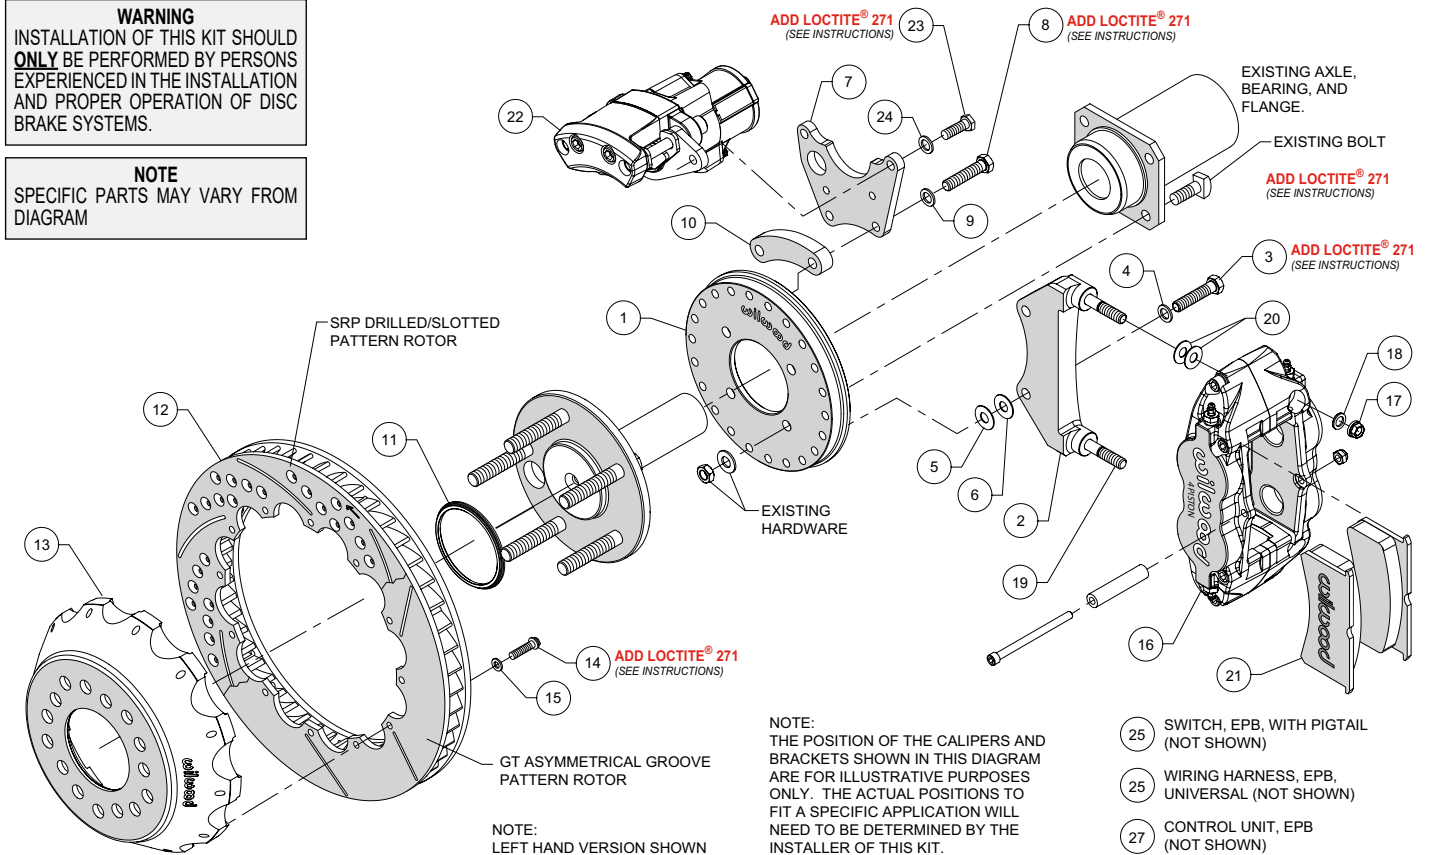
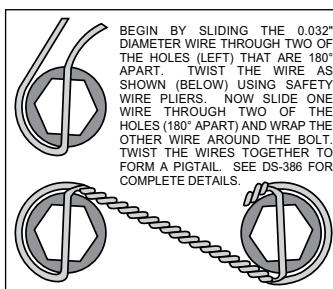

Figure 1. Typical Installation Configuration
Figure 4. Safety Wire Diagram
NOTE: Numbers in parenthesis refer to the parts list and Figure 1 on the preceding pages.
- Orient the backing plate (1) as shown in Figure 1 and Photo 1, and mount it to the axle housing flange using the Original Equipment Manufacturer (OEM) bolts, washers and nuts, Figure 1. Ensure the backing plate fits flush against the axle housing flange. Apply red *Loctite*® 271 to the OEM bolt threads and torque to OEM specifications.
•Start by determining the best location for the service caliper (16). This caliper is usually mounted in the 3:00 or 9:00 o'clock position, but may be rotated up or down approximately 45 degrees and still allow for proper bleeding, Photo 2. Orient the service caliper bracket (2) as shown in Figure 1 and Photo 3, and install to the backing plate (1) in the desired location using bolts (3) and washers (4). Temporarily tighten bolts. Next, mount the service caliper onto the bracket. Mount the service caliper using lock nuts (17) and washers (18), Figure 1. Temporarily tighten the lock nuts. Check that the caliper (including inlet fitting and hose) has sufficient clearance to all surrounding components through the full suspension travel. Relocate the caliper/bracket on the backing plate as needed to ensure proper clearance is achieved.
•Determine the best location for the EPB caliper (22). **NOTE:** The EPB caliper motor extends farther inboard than the service caliper and therefore needs additional consideration when determining a mounting location with sufficient clearance. In the example application shown in Photo 4, the EPB caliper has sufficient inboard clearance to the leaf spring. However, if the EPB caliper were mounted closer to the 12:00 o'clock position, the inner body of the vehicle would hit the caliper during full compression of the suspension.
•Orient the EPB caliper bracket (7) as shown in Figure 1 and Photo 5, and install to the backing plate (1) in the desired location using bolts (8), washers (9), and spacer (10). Temporarily tighten bolts. **NOTE:** The EPB bracket is reversible. In one direction the bracket will position the EPB caliper closer to the service caliper, and vice versa if reversing the bracket. Next, mount the EPB caliper (22) to the bracket using bolts (23) and washers (24). Temporarily tighten bolts. **NOTE:** EPB calipers are Left and Right handed, however they can be used on either side of the vehicle to best suit your specific application. Check that the EPB caliper (including wiring harness connector) has sufficient clearance to all surrounding components through the full suspension travel. Relocate the EPB caliper/bracket on the backing plate as needed to ensure proper clearance is achieved.
•Once the caliper positions have been determined, remove both the service (16) and EPB (22) calipers, leaving both brackets in place on the backing plate. For the EPB bracket, remove the bolts one at a time, apply red *Loctite*® 271 to the threads, and torque to 35 ft-lb. The service caliper bracket will be final installed after shimming is determined.
•Orient the rotor (12) and the hat (13) as shown in Figure 1 and Photo 6. Attach rotor to hat using bolts (14) and washers (15). Apply red *Loctite*® 271 to the bolt threads and torque to 155 in-lb using a criss-cross pattern. For an added measure of security, the bolts may be safety wired using standard 0.032 inch diameter stainless steel safety wire as shown in Figure 4. Please refer to Wilwood's data sheet DS-386 (available at www.wilwood.com/Pdf/DataSheets/ds386.pdf) for complete safety wire installation instructions.
•Slide the rotor registration adapter (11) onto the register on the axle flange with the smaller O.D. facing toward the rotor/hat (12 and 13), Photo 7.
•Initially place two .035" thick shims (20) on each stud of the service caliper bracket (2), as shown in Figure 1 and Photo 8. Mount the caliper onto the bracket using lock nuts (17) and washers (18), Figure 1. Temporarily tighten the lock nuts and view the rotor through the top opening of the caliper. The rotor should be centered in the caliper, Photo 9. If not, adjust by adding or subtracting shims (5 and/or 6) between the service caliper bracket (2) and the backing plate (1). Always use the same amount of shims on each of the two mounting bolts. Once the caliper alignment is correct, remove the bracket mounting bolts (3) one at a time, apply red *Loctite*® 271 to the threads, and torque bolts to 35 ft-lb.
•Remove the caliper center bridge pad retainer bolt, nut, and tube from the caliper. Insert the brake pads (21) into the caliper, with the friction material facing the rotor, as shown in Photo 10. Check that the top of the brake pad is flush with the outside diameter of the rotor, Photo 11. If not, adjust by adding or subtracting shims (20) between the caliper (16) and the service caliper bracket (2). After the caliper pad height is set, torque the caliper lock nuts (17) to 30 ft-lb. Secure the brake pads in place with the center bridge pad retainer tube, bolt, and locknut, Photo 12. The locknut should be snug without play in the bolt or tube. Be cautious not to over tighten.
- Mount the EPB caliper (22) onto the caliper mounting bracket (7) using bolts (23) and washers (24), Figure 1. Apply red *Loctite*® 271 to bolt threads, and torque to 30 ft-lb.
- NOTE:** *The service caliper (16) in this brake kit utilizes a 1/8-27 NPT pipe thread inlet. OEM rubber brake hoses generally cannot be adapted to Wilwood calipers. The preferred method is to use steel adapter fittings at the caliper, either straight, 45 or 90 degree (use PTFE tape on pipe threads of adapter fitting for proper sealing to caliper) and enough steel braided line to allow for full suspension travel. Carefully route hoses to prevent contact with moving suspension, brake or wheel components. NOTE: Wilwood hose kits are designed for use in many different vehicle applications and it is the installer's responsibility to properly route and ensure adequate clearance and retention for brake hose components. Wilwood offers universal brake flex line hose kits, domestic (3/8-24 IF) chassis fittings, order:*